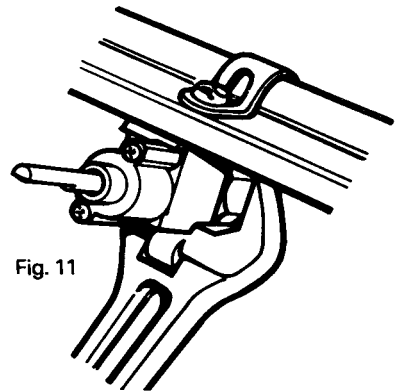

Fig. 11
2. Disconnect the supply pipe from the rear of the tap (see Fig. 11).